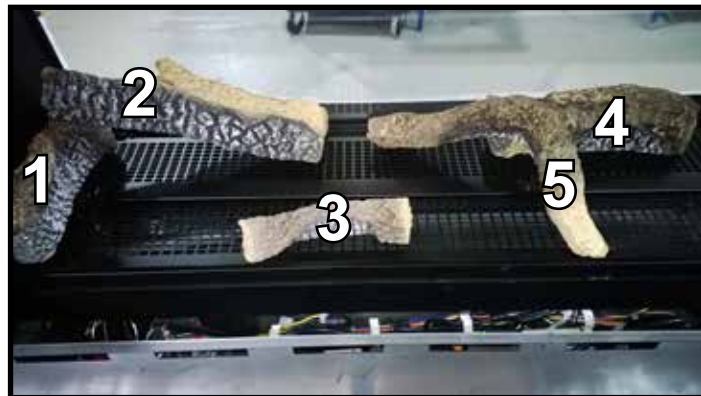

Figure 9. Log #5 (SRV2300-707)
16. **LOG #5 (SRV2300-707):** Install Log # 5. Place log so that the back end sits against shoulder screw #5. See Figure 9. The other end of the log will contact shoulder screw #8. The center of the log will rest on Log #4, crossing the burner over the screws which were installed in Step 9.